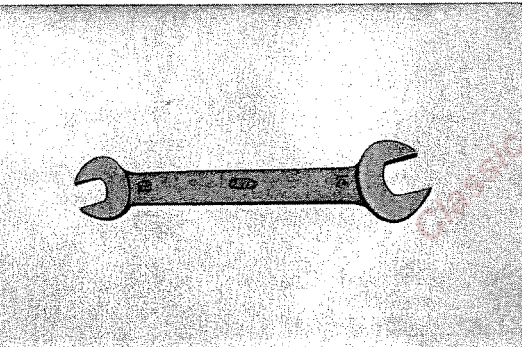

Fig. 6.35 Tools required for adjusting rear brake
- a. Tools required for rear brake adjustment. (Refer to Fig. 6.35)